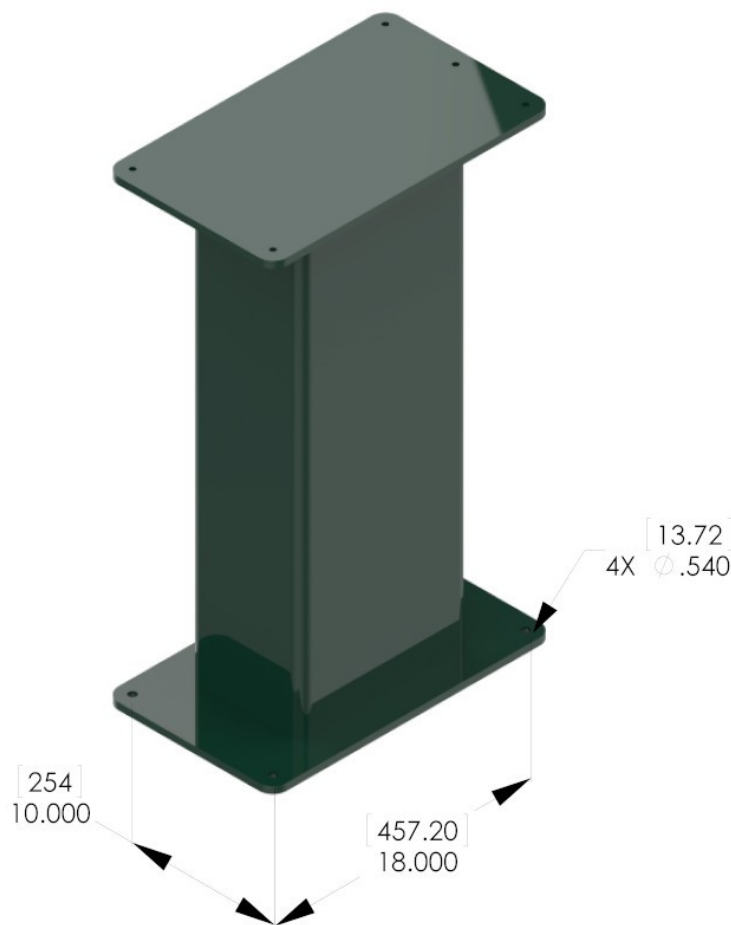

Figure 1. SBS91 Base Plate
The SBS91 Servo Belt Stand is secured by four (4) fasteners passing through mounting holes located in the Base Plate (See Figure 1). The SBS91 must be securely mounted to keep the unit from moving during operation. The unit must be mounted level to achieve the desired force output at the Contact Wheels. A spirit level can be placed on the top of the Belt Stand and shims can be inserted under the Base Plate as required.